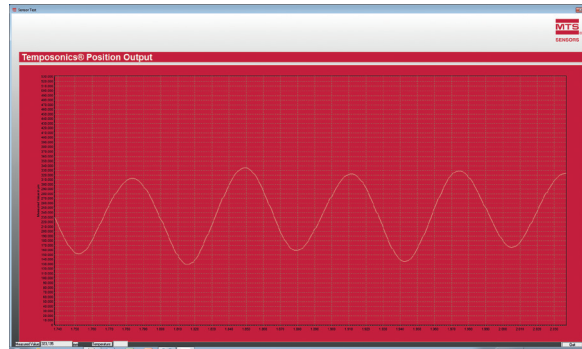

Fig. 58: Graphical display of position values via Test Sensor
- 2 Via **Test Sensor** the position of the magnet is displayed graphically. (Fig. 58).
- 9 Via **UART Result Counter** you define a time interval for the function **Test Sensor** to send a position value Fig. 58 (graphical presentation of position values). Example: If you choose "50" in the field **UART Result Counter**, each 50. measurement will be displayed.